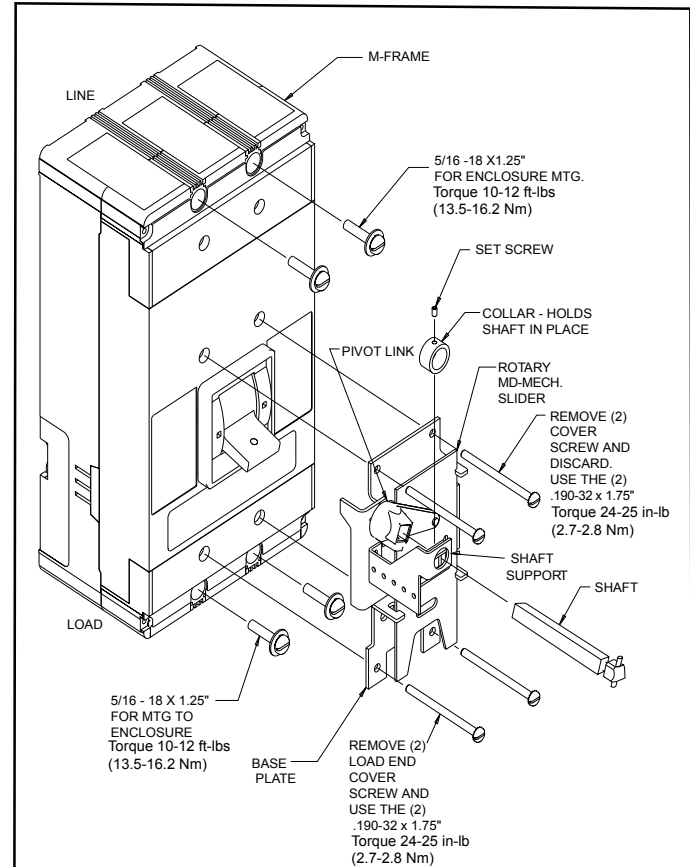

Fig. 2-2 M-Frame Breaker/Mechanism Assembly
3. Mount circuit breaker to enclosure using the four (4) 5/16-18x1.25" long screws in the hardware kit. Insert screws and lockwashers into load and line end circuit breaker mounting holes and tighten securely. (Fig. 2-2.)
4. Mount mechanism onto circuit breaker, ensuring slide plate is engaged with the circuit breaker handle. Remove the (2) breaker cover screws and (2) load cover screws as shown in Fig. 2-2 and discard. Insert the (4) screws (.190-32 x 1.75) enclosed, along with lockwashers from the hardware kit, through the mounting holes of the mechanism and into the empty cover screw holes of the circuit breaker, as shown on Fig. 2-2.
5. Take set screw and shaft collar from hardware kit and insert set screw into shaft collar. Place square end of shaft through shaft support bracket then through shaft collar and into square opening of die cast pivot link on the operating mechanism attached to the circuit breaker, as shown on Fig. 2-2. Position shaft collar lightly against the underside of the shaft support collar and torque set screw between 28-30 in-lbs.